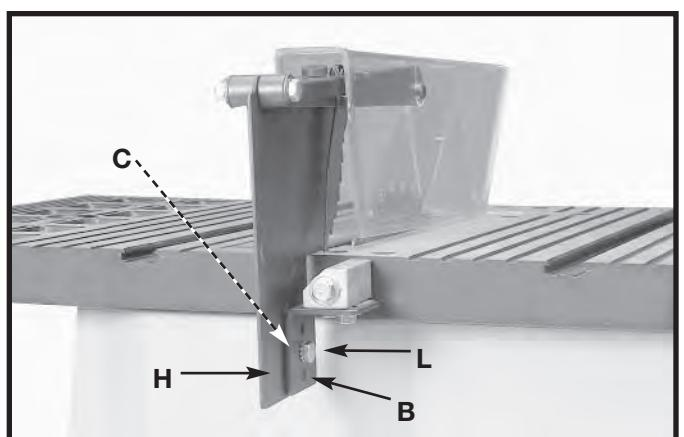
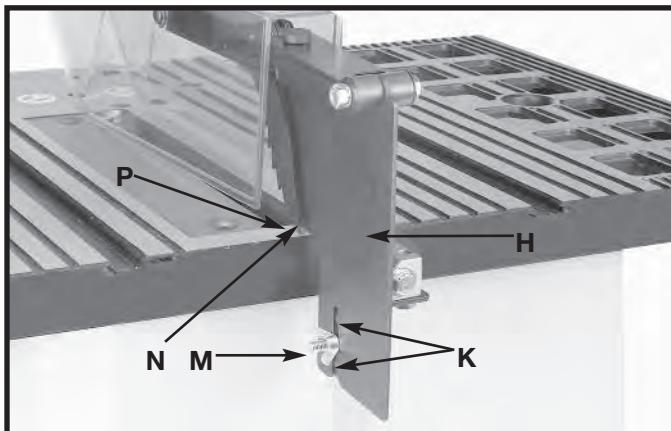

Fig. 14
Fig. 15
- Attach the splitter (H) Fig. 14 to the splitter support bracket (B). Place a 1/4" external tooth lockwasher and an M6.4 flat washer on an M6x1x20mm hex head screw (L).
- Insert the screw (L) Fig. 14 through the splitter support bracket (C) and the splitter (H). Place an M6.4 flat washer and a 1/4" external tooth lock washer on the screw (L). Thread an M6x1 wing nut (M) Fig. 15 on the screw (L) Fig. 15.
NOTE: Before tightening the wing nut (M) Fig. 15, make certain a gap of at least 1/8" is between the bottom edge of the splitter (N) and the top surface of the table (P) and that the protrusions (K) are inside the slot of the splitter assembly (H).